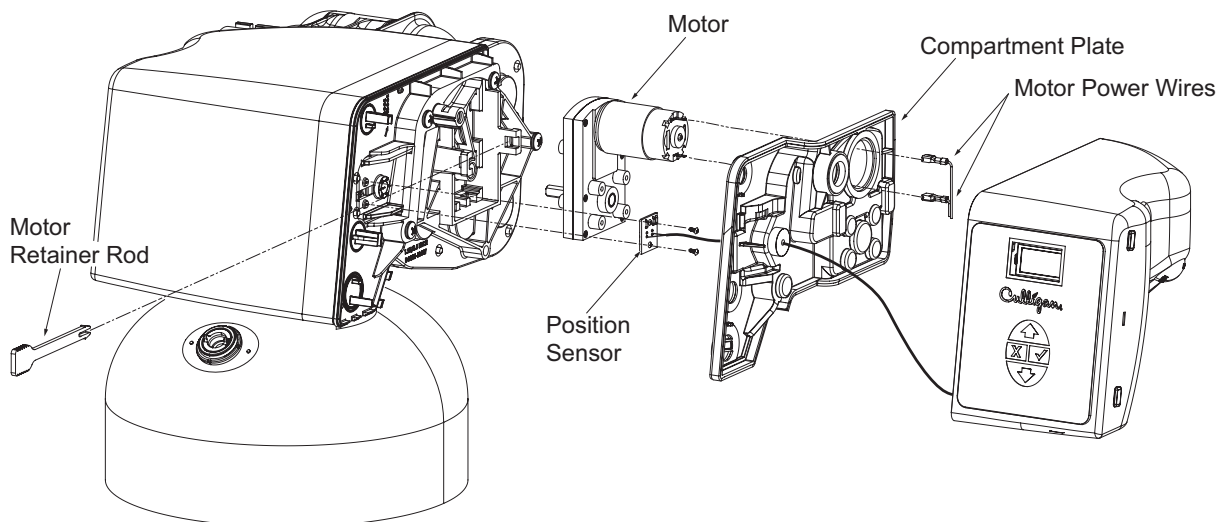

Figure 58. HE 1.5 drive motor.
4. Remove the motor retainer rod by squeezing the snap release end of the rod. See Figure 58.